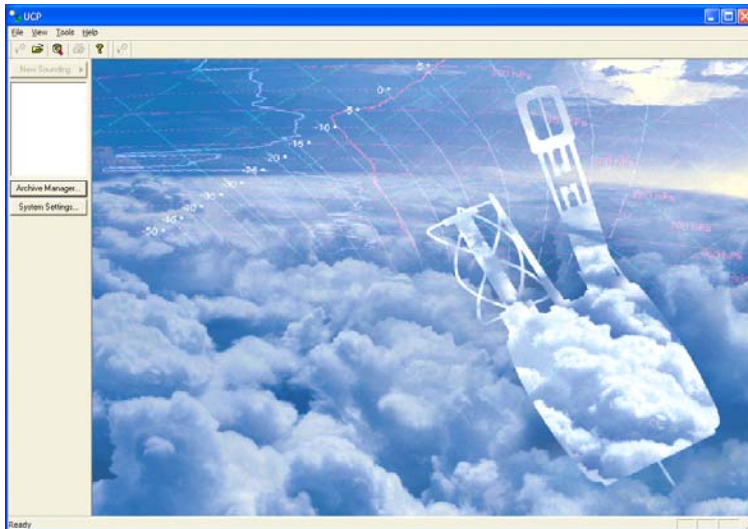

Figure 6
16. Go to the BBSS computer and start the DigiCORA III program, if it has not already been running. You should see the screen shown bellow (Figure 6).